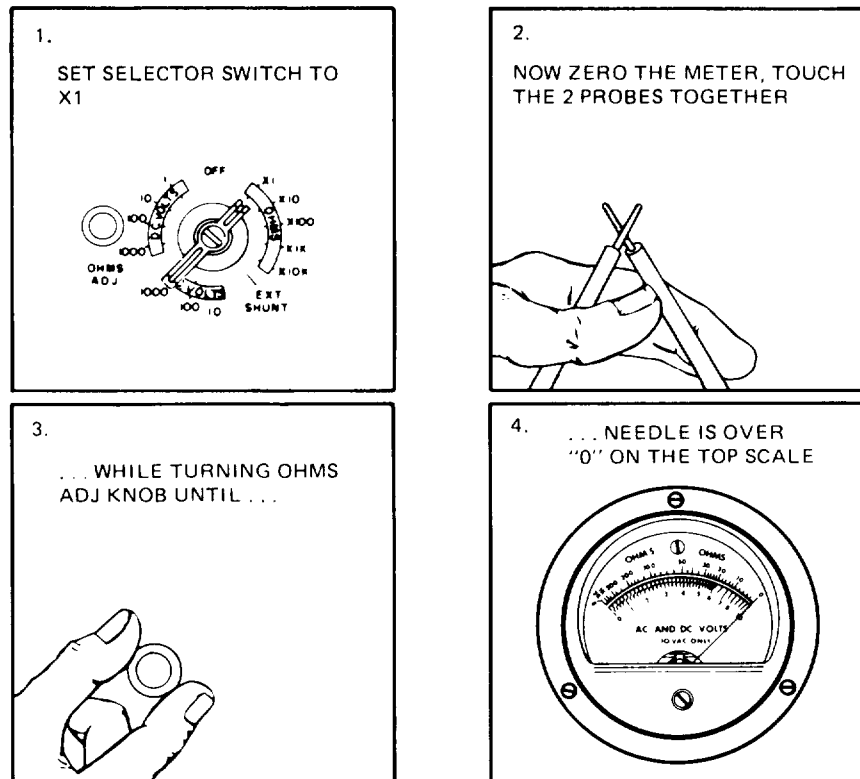

Figure 5-2. Using the Ohms Scale and “Zeroing” Multimeter AN/URM-105
b. *Using the Ohms Seale.* The Ohms Scale (fig. 5-2 thru fig, 5-4) is used to make tests for continuity, shorts, and resistance. The multi meter must be set up and “zeroed” before making these tests. Do the following steps that match the multi meter you have: